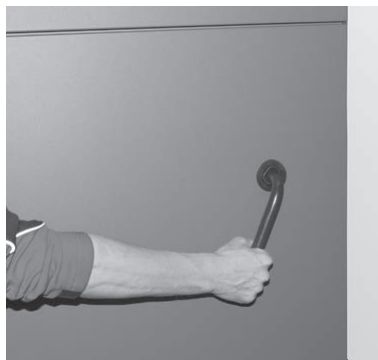

Fig. 28 Pressing lever for cleaning heating surfaces 5–10 times
– Press lever for cleaning heating surfaces 5–10 times – Fig. 28.